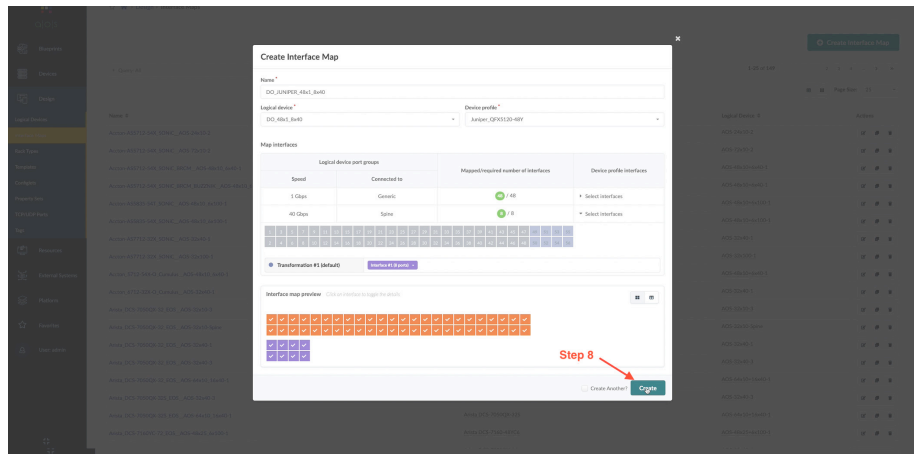

Figure 3.9 *Creating Interface Mappings in Apstra*
Step 8: Once all interface panels have had the correct ports assigned the user can click Create as in Figure 3.9. The column *Mapped/required number of interfaces* will show in green once the expected number of interfaces have been assigned to every interface panel.